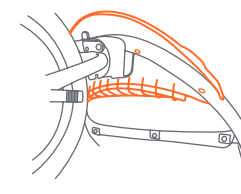

Fig. 25a
25) • Line up the front fender and press onto the front frame assembly (Fig. 25a).